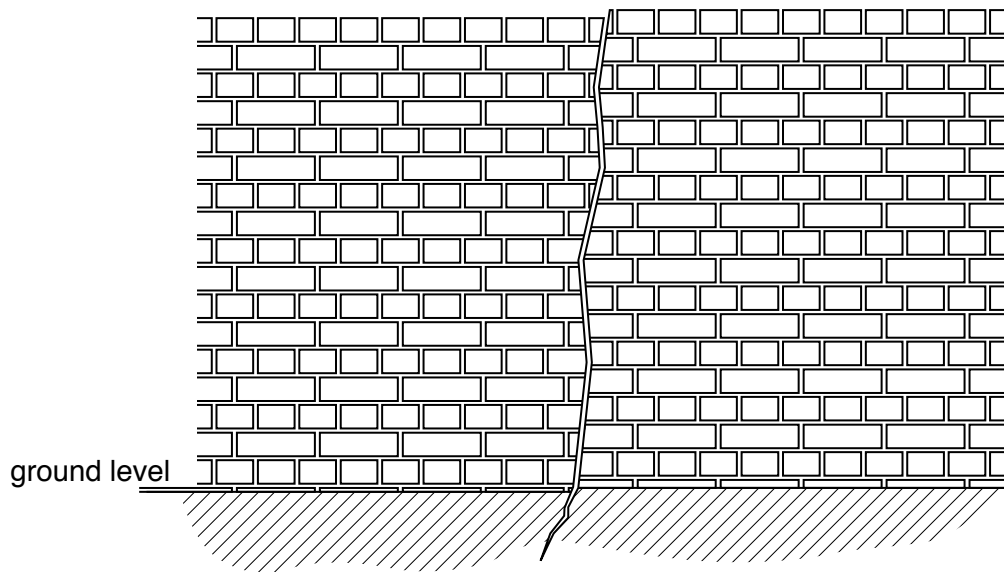

Fig. 4.1
- 4 Fig. 4.1 shows a brick wall with a crack in it.